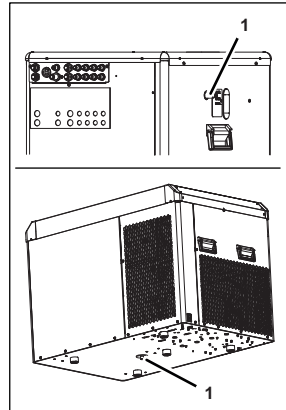

Figure 25
8. **For Energize 3v HC/Energize 5 HC single/Energize 5 HC dual only:** Connect a drain tube to the relevant overflow (Figure 25/1).